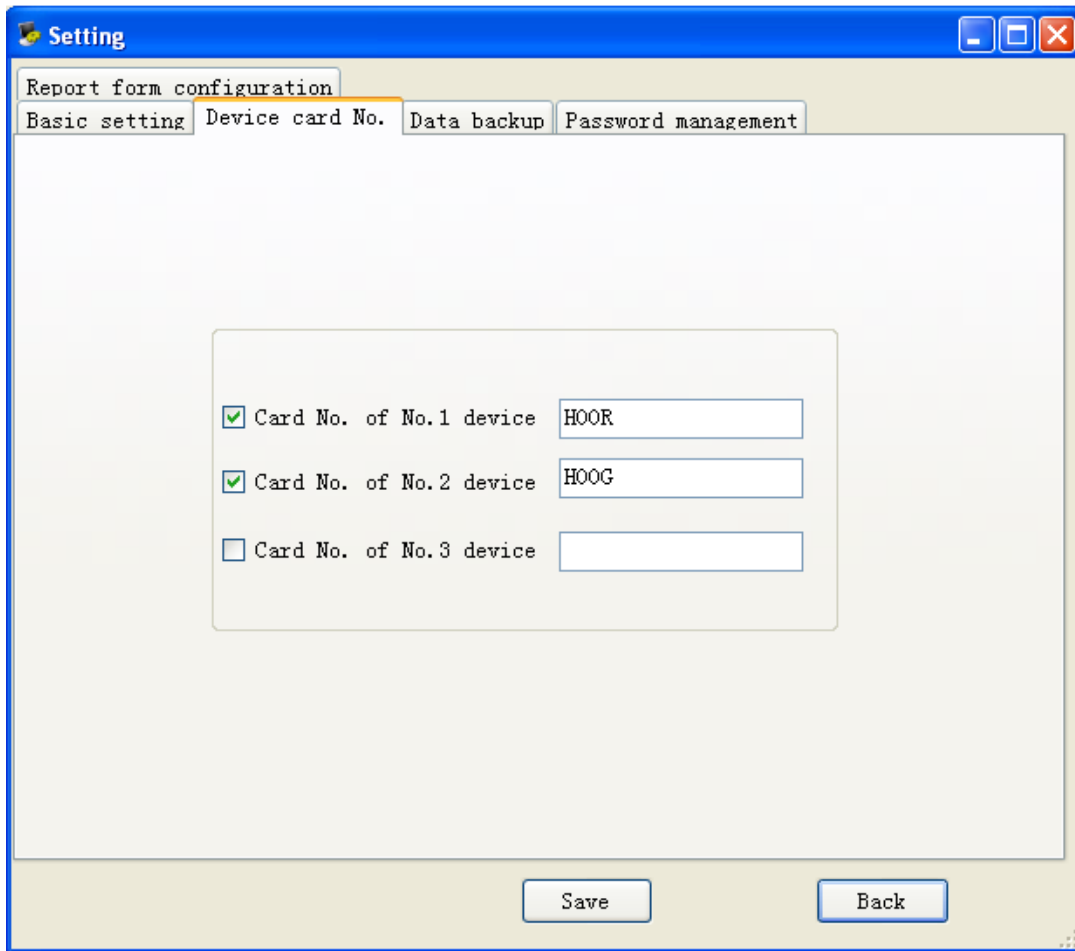

Fig. 5-1-3
**1-2.Device card No.:** Click “Device Card No.” on the Setup window, popup the window as Fig. 5-1-3.